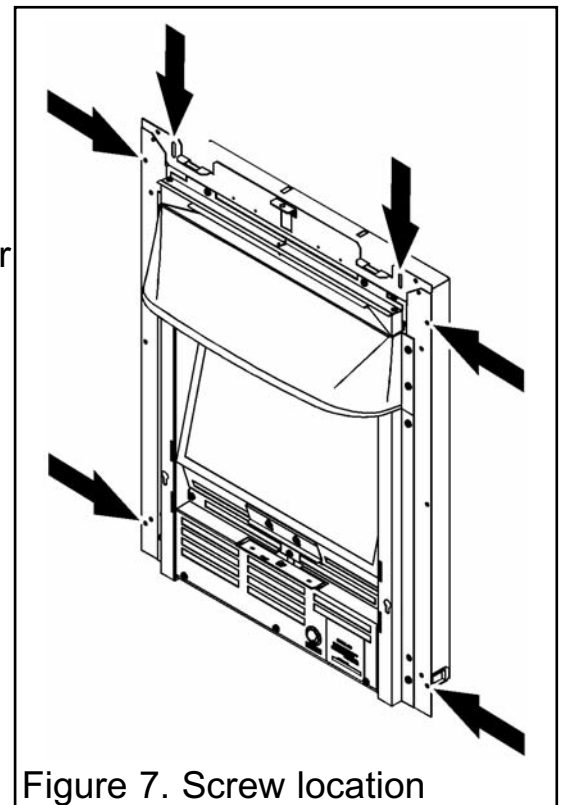

Figure 7. Screw location
2. There are two slotted holes in the top of the heater and four holes in the side flanges (See figure 7). We recommend the use of two upper holes and two lower holes. Mark through the required holes so that their position is clear when the heater is removed.